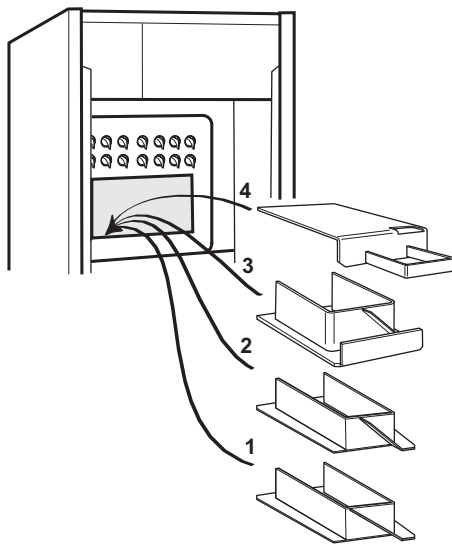

Fig. 24 - 50/70 baffles
- 2 Remove the baffles as shown in Fig. 24, 25, 26 or 27.
- 6 Replace the baffles, ensuring they are correctly fitted. See Fig. 24, 25, 26 or 27.